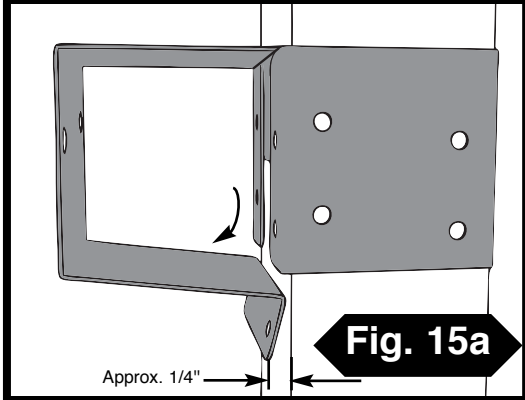

Fig. 15a
1. Work (1) 4" x 4" into brackets as shown in **(Fig. 15a), (Fig 15)**.